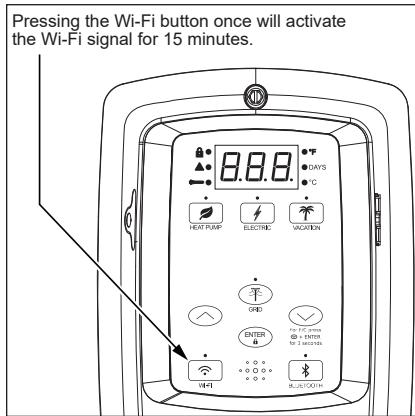

Figure 25 - Wi-Fi Control
- 1** To activate the Wi-Fi signal, press the Wi-Fi button once. The LED will blink on and off in 1/2 second intervals. Wi-Fi will activate pairing mode (Figure 25).